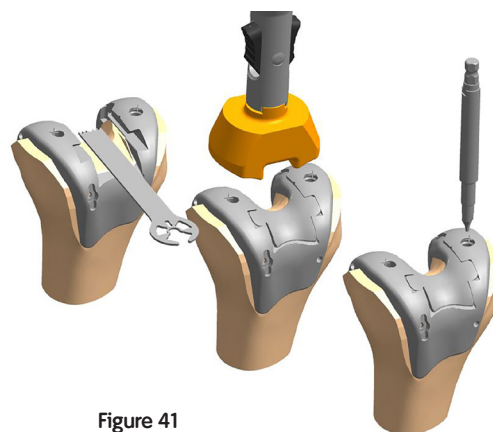

Figure 41
1. Using the angled face on the femoral trial as the guide, remove the anterior intercondylar femoral bone using a narrow sawblade (Figure 41).
2. Select the appropriate size JOURNEY® II CR notch trial and engage the anterior portion of the notch trial first. Then use the femoral implant impactor to impact the posterior portion of the notch trial until it sits flush with the femoral trial (Figure 41).
3. Use the Lug Drill to prepare for the femoral lugs by drilling to the bottom of both distal holes in the femoral trial (Figure 41).